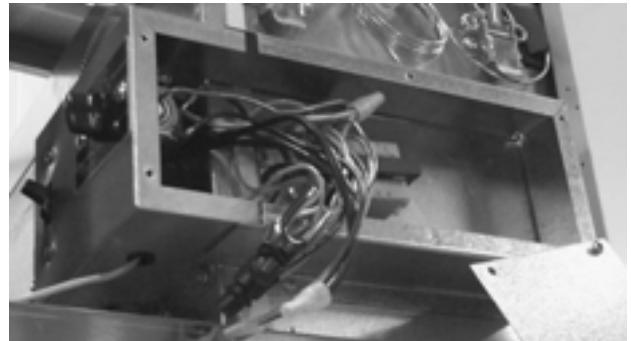
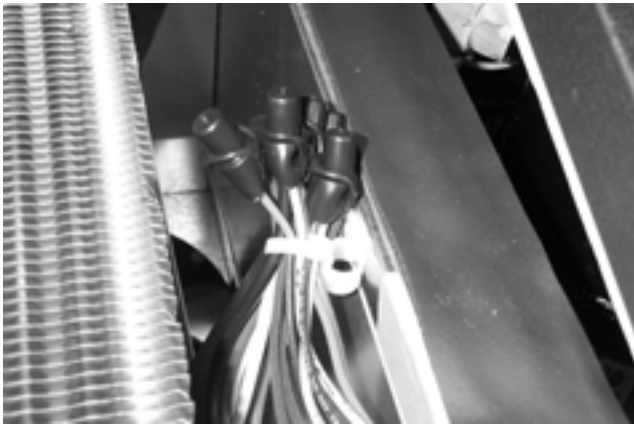

Figure 4-30
Figure 4-31
4. Disconnect the heater wires located in the wiring box (Figure 4-30) for 2 and 3 section cabinets or wiring bundle (Figure 4-31) for 1 section cabinets.